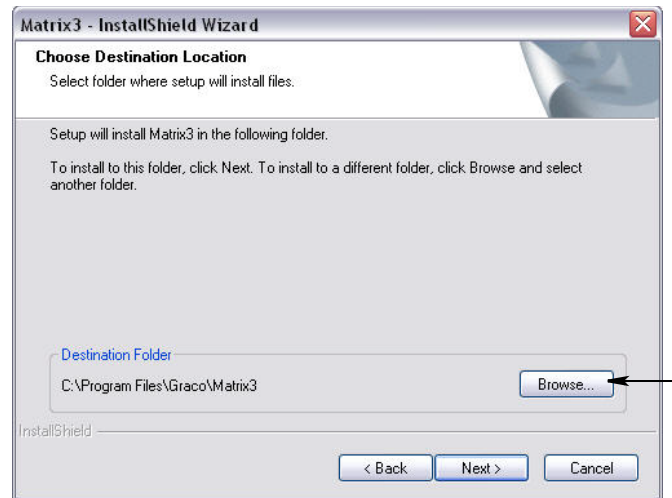

FIG. 6
7. Chose the Destination Location. The default is C:\Program Files\Graco\Matrix3. Click the Browse button, shown in FIG. 6 to select a different location.